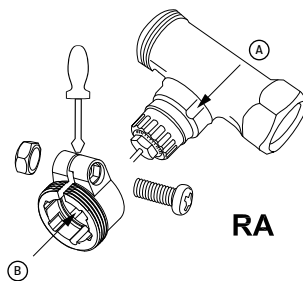

Fig. 3
The valve bodies on Danfoss valves have elongated indentations **A** (see arrow, Fig. 3) around their circumference that ensure the adapter fits better after mounting.
- ▶ When mounting, ensure that the pins in the interior of the relevant adapter **B** (Fig. 3–5) are precisely aligned with the indentations **A** on the valve.